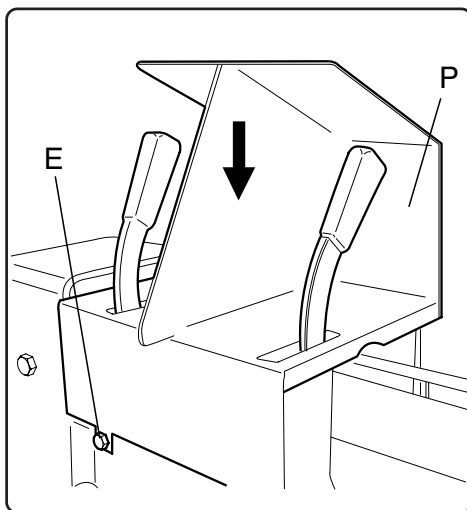

Fig. 5
- Insert control levers C and B, as per the arrow direction, into support plate D as shown in Fig. 5.
- Insert protection P, as per the arrow direction, onto levers C and B assembled beforehand. Fix the protection to the frame by means of the 4 self-threaded screws removed previously, as shown in Fig. 5.